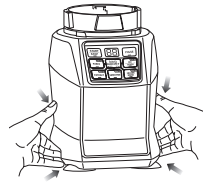

Fig. 9
- 18 To release the motor base from the counter or table top, place your hands underneath both sides of the motor base and gently pull the unit up and towards you. **(Fig. 9)**